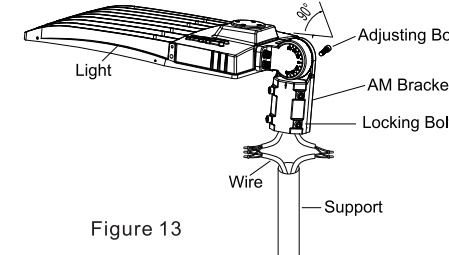

Figure 13
Step 1: Loosen the four bolts on AM bracket, connect the wires correctly, and pull the wires into the poles. (Figure 13)
Notice: Adjustable angle is 0-90° (Figure 13)